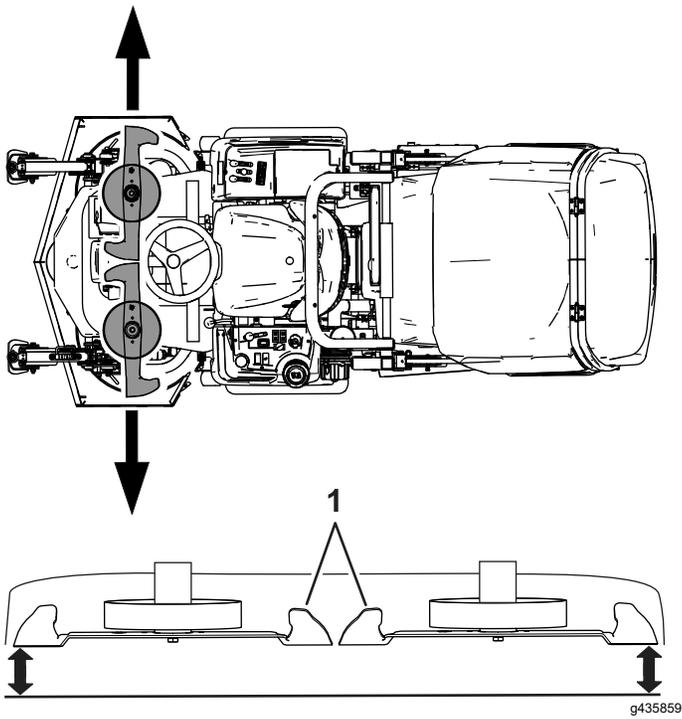

Figure 103
3. Align a wing blade to the outermost position (Figure 103).
4. Measure the distance between the ground and the outermost point of the cutting edge of the blade (Figure 103).
5. Align the wing blade at the other side of the cutting unit to the outermost position (Figure 103).
6. Measure the distance between the ground and the outermost point of the blade cutting edge with a gauge block (Figure 103).
8. Measure the outermost point of the blade cutting edges (Figure 103).